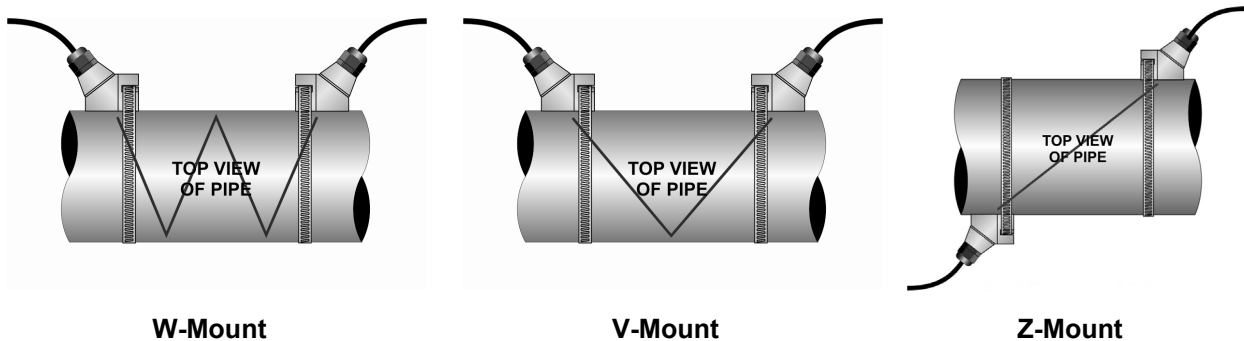

Figure 1.2
- B. Select a mounting method for the transducers based on pipe size and liquid characteristics. See **Figure 1.2**. Select **W-Mount** for plastic pipes flowing clean, non-aerated liquids in the 2-3 inch [50-75 mm] internal diameter range. Select **V-Mount** for pipes of all materials and most liquids in pipe sizes from 2-10 inches [50-250 mm]. Select **Z-Mount** for pipes 10-100 inches [250-2540 mm] inches.
- Attach the transducers to the pipe at the location(s) determined in Step 1. Refer to **Figure 1.2** for proper orientation.